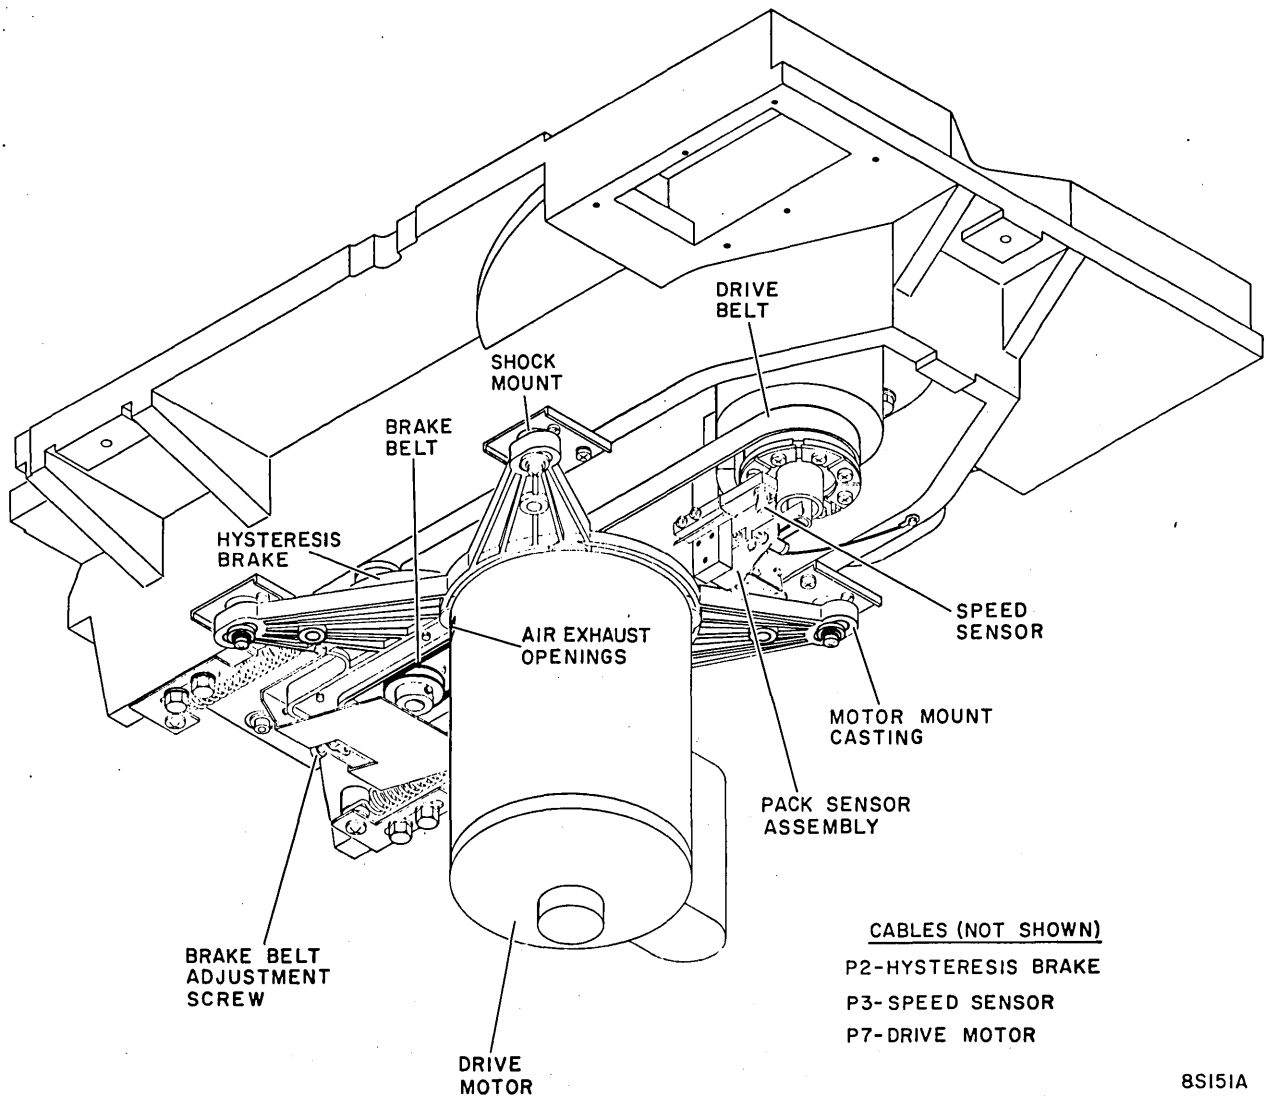

Figure 3-27. Deck Assembly Bottom Side
18. Support drive motor from below and position motor mount casting below deck on shock mounts (Figure 3-27). Secure motor mounting casting to shock mounts with four screws, washers, and bushings prepared in step 17.